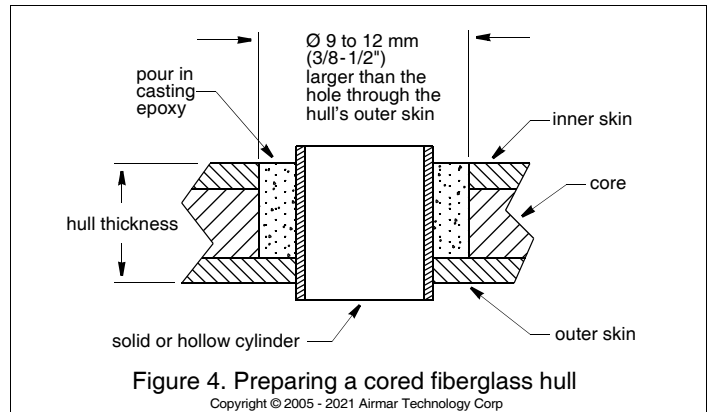

Figure 4. Preparing a cored fiberglass hull
2. Using a $\text{\O} 51\text{mm}$ or $2"$ hole saw, cut the hole from outside the hull through the *outer skin* only (Figure 4).